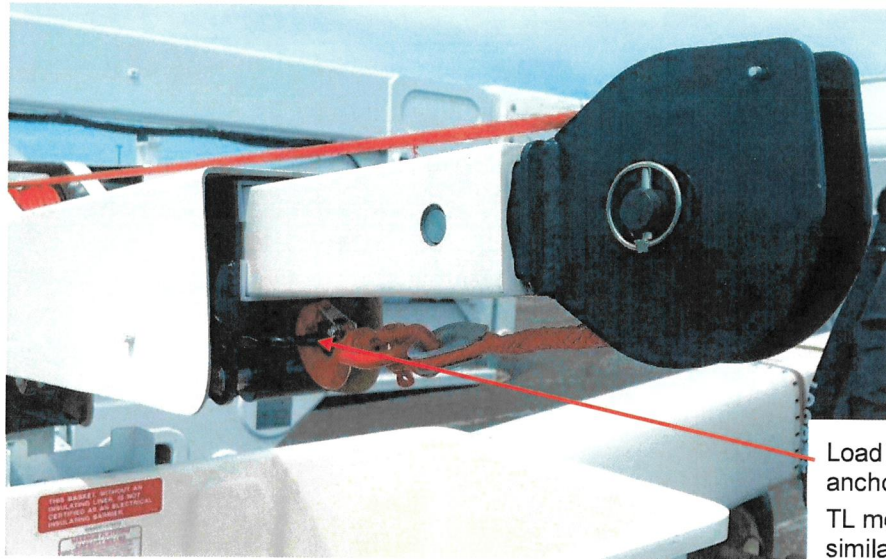

Figure 1. Load Line Hook Secured to Anchor on Main Jib Boom
3. Secure the load line hook when stowing the machine as shown in Figure 1 below.